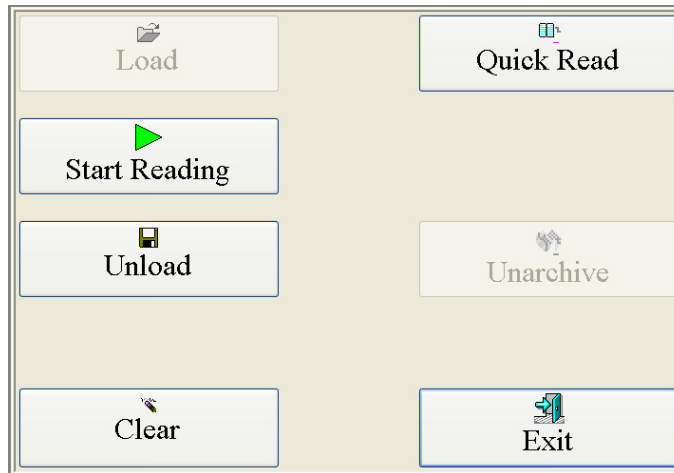

Figure 35: Main menu - Unload
2. Select the **Quick Read** button on the main menu. See Figure 35 on the previous page.